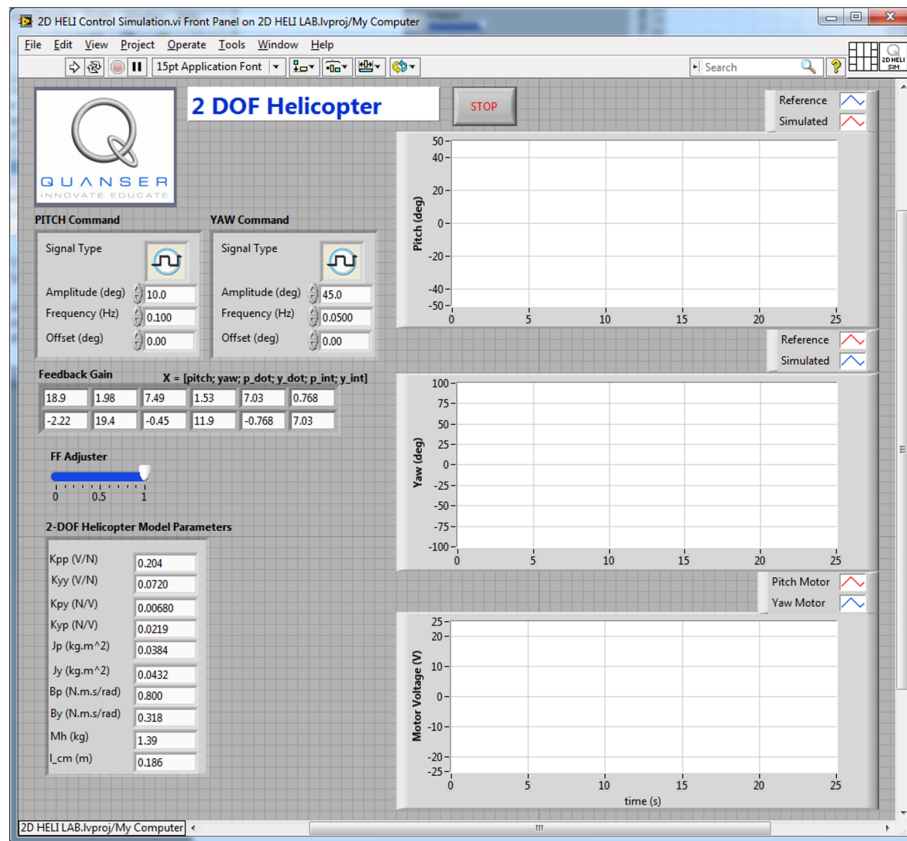

Figure 5.8: Simulation of the feedback controller using the 2 DOF Helicopter nonlinear model.
1. Open the *2D HELI Control Simulation VI* (shown in Figure 5.8), which is used to simulate the closed-loop controller with the full 2 DOF Helicopter nonlinear model.